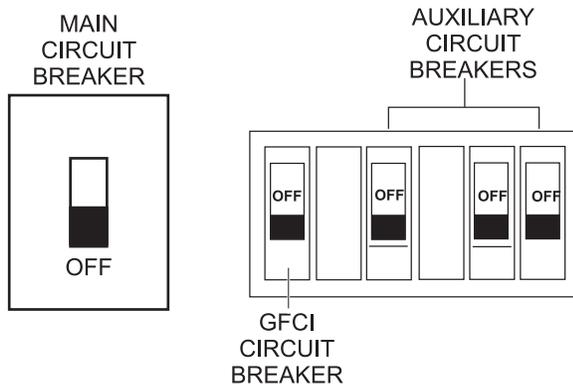

Figure 35. Main, Aux. and GFCI Circuit Breakers (OFF)
1. Place both the **MAIN, GFCI and LOAD** circuit breakers as shown in Figure 35 to the **OFF** position.
2. Place both the **MAIN, GFCI and LOAD** circuit breakers as shown in Figure 35 to the **OFF** position.